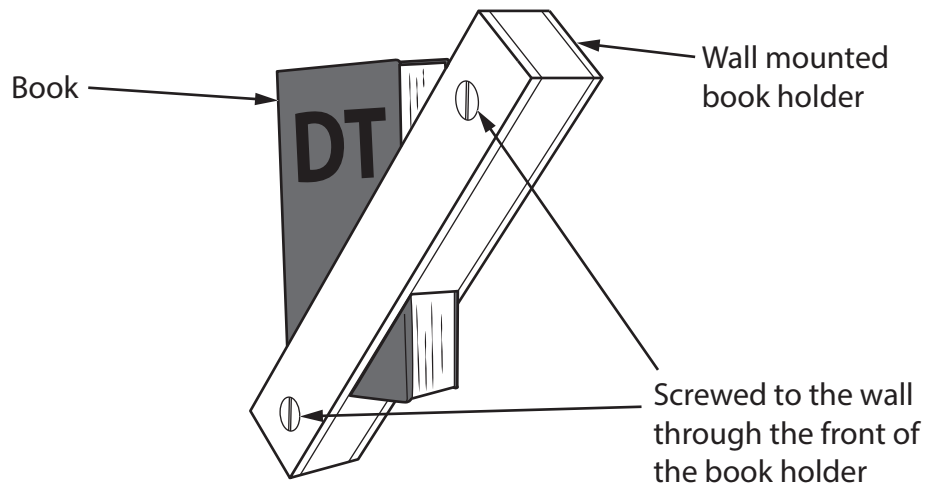

Figure 2
- 2 Figure 2 shows a wall mounted book holder manufactured from mahogany.